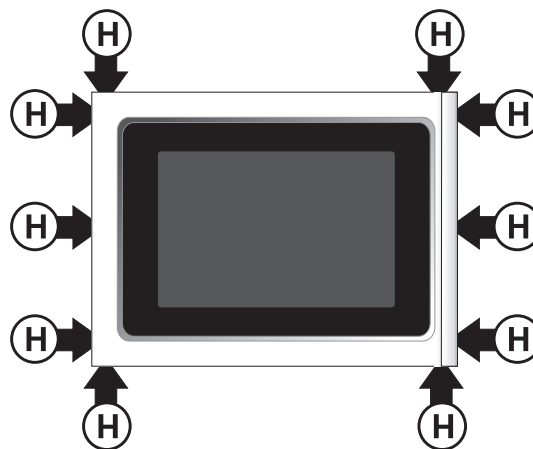

Figure 12
- 3.3.1. Remove the three (3) screws, each side, fixing the outer door assembly (glass panel and handle). Remove also the four (4) screws located on top (2) and under (2) outer door assembly (see H, Figure 12 (10 screws total)).
3.3.14. Fix the outer door assembly using the ten (10) screws removed on step 3.3.1 (See H, Figure 12).